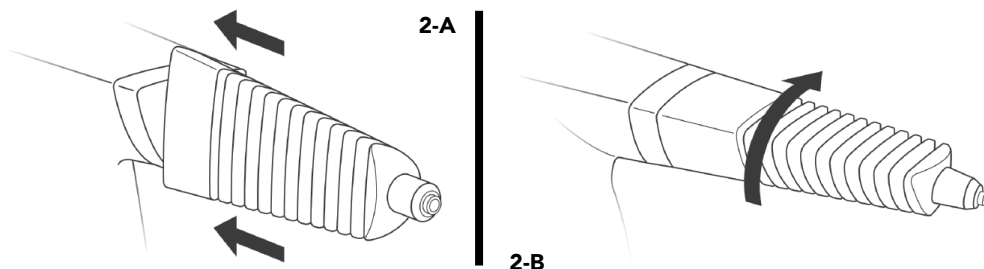

FIGURE 2
2. Slide Jet Nozzle onto Steam Nozzle - guide keys should fit into key slots. Push Jet Nozzle on as far as it will go (FIGURE 2-A). Rotate Jet Nozzle 90° clockwise, turning it until it will move no further (FIGURE 2-B).